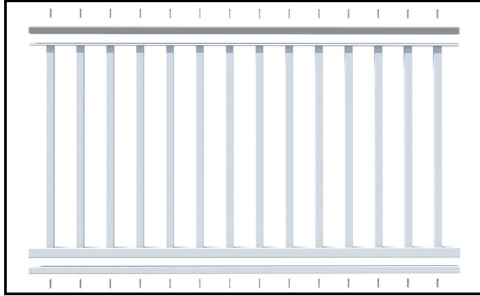

Fig. 9
- Repeat this process for the remaining pickets along the top and bottom. (See Fig. 9)